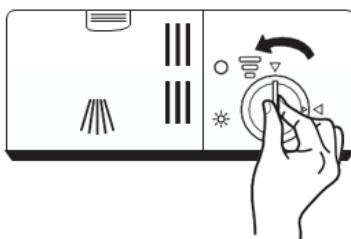

Figure 9- Removing the Rinse-aid dispenser cap.
Step 1 Remove the Rinse-aid dispenser cap by screwing it in an anti-clockwise direction. Refer to Figure 9.